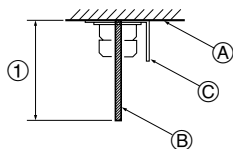

Fig. 3-4
3.2.5. Indoor unit preparation (Fig. 3-4)